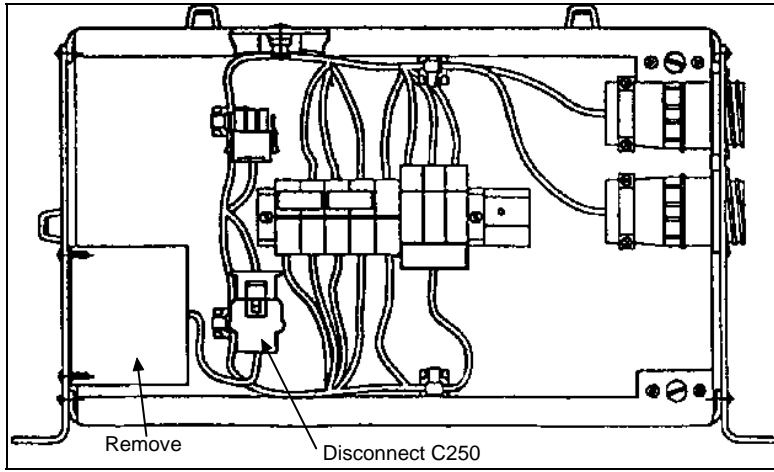

FIGURE 4
2. Disconnect connector C250, it is inside the alarm junction box (Fig. 4.)